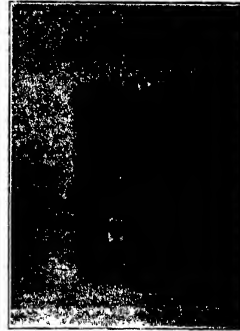

Fig. 282. Scrap-Box.
*Scrap-boxes*, Fig. 282, and *flower-pot boxes* may be made with the same construction.